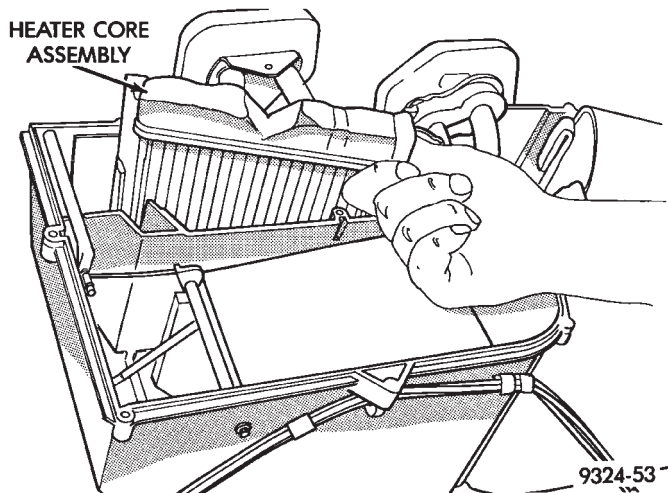

Fig. 2 Removing or Installing Heater Core Assembly
(2) Remove one screw retaining the vacuum harness. Feed harness through hole in cover.
(3) Remove thirteen screws from top cover and remove cover. Temperature control door will come out with the cover. Remove the nut and lever from the door shaft to remove the temperature door from the cover.
(4) Remove screw from heater core tube retaining bracket and lift heater core out of unit (Fig. 2).